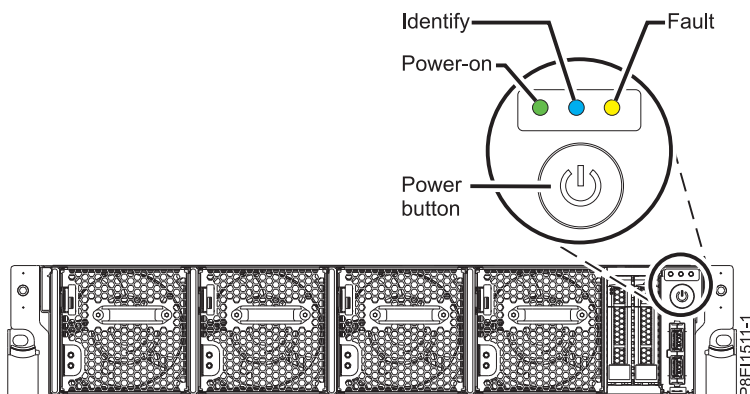

Figure 218. Power button
- The power-on LED as shown in Figure 218, is flashing. A flashing light indicates standby power to the unit.
3. Press the power button shown in Figure 218. The power-on light stops flashing and remains on, indicating that the system power is on. The system cooling fans run at a high speed, and after approximately 30 seconds, return to operating speed.